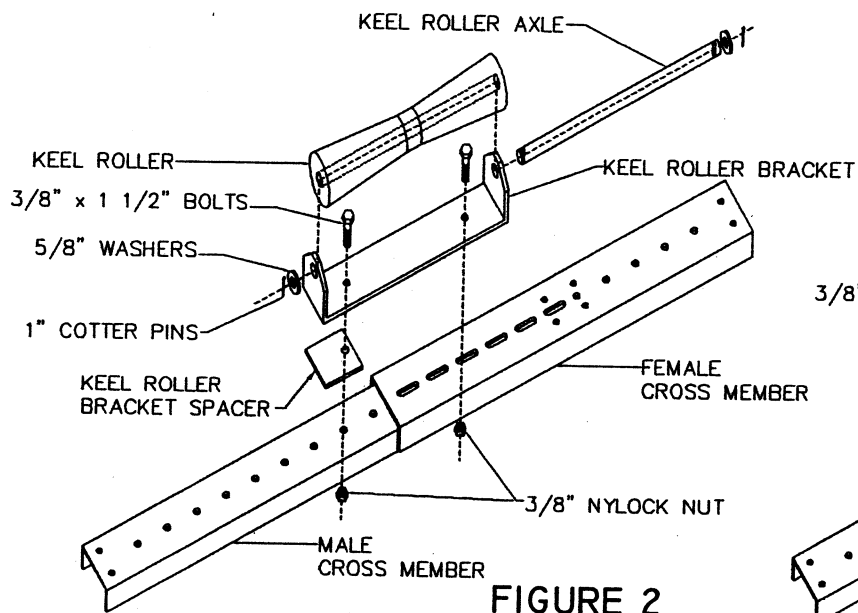

FIGURE 2
3. Once you have determined the overall width of your rail system assemble (6) of the male cross members to (6) of the female cross members using (2) 3/8 x 1" bolts and lock nuts in each pair. **DO NOT TIGHTEN ANY BOLTS** at this time.
4. On one of the remaining cross member pairs, place the 2 parts together at their proper spacing. Then place the keel roller bracket so that it is centered on the assembly. If it overlaps across the end of the female cross member you will need to insert the keel roller bracket spacer between the keel roller bracket and the male cross member. See **Figure 2**. Use the slightly longer 3/8 x 1 1/2" bolts and lock nuts for this cross member assembly. Verify that you have followed the "odd number" hole rule above... you should have the same number of exposed holes on each side of the keel roller bracket. Assemble the keel roller into the bracket as shown, using the 5/8" washers and cotter pins.
5. With the final cross member pair, you should attach the Lower Winch Post . Again this should be centered in the assembly and (2) 3/8" spacer washers should be inserted if the base plate spans over the male-female overlap joint. Use (2) 1 1/2" bolts and lock nuts here as well.